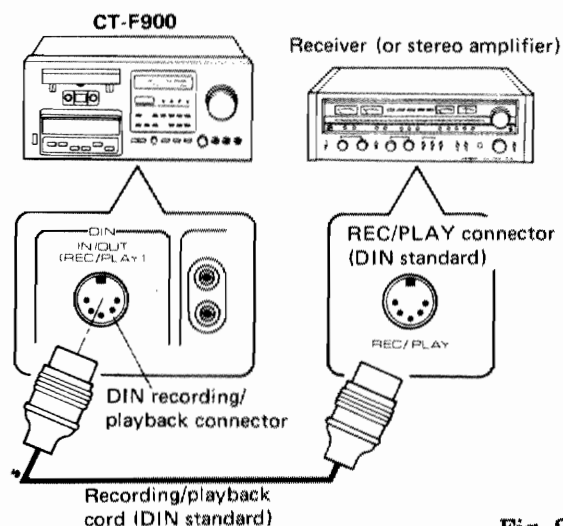

Fig. 2
**Using the DIN (REC/PLAY) connector:** If the receiver is equipped with DIN recording/playback connector, use DIN recording/playback cord, which is sold separately, to connect the DIN (REC/PLAY) connector on the CT-F900 and the receiver (Fig. 2). There is no need for the accessory connecting cords since the same connections serve for both recording and playback.